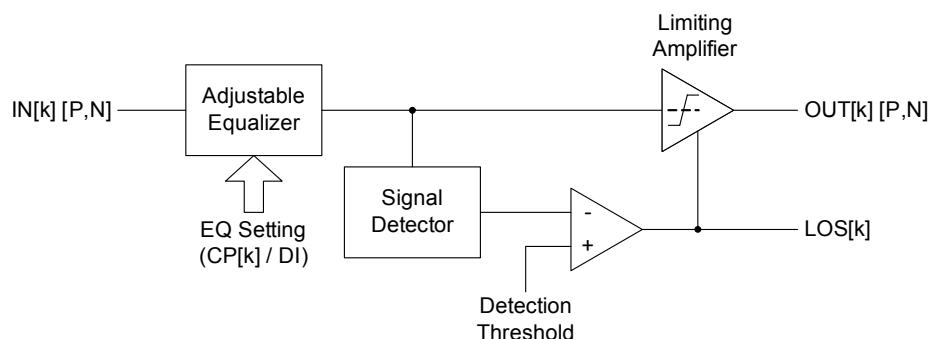

FIGURE 22. FUNCTIONAL DIAGRAM OF A SINGLE CHANNEL WITHIN THE QLx4600-S30
The QLx4600-S30 is an advanced quad lane-extender for high-speed interconnects. A functional diagram of one of the four channels in the QLx4600-S30 is shown in Figure 22. In addition to a robust equalization filter to compensate for channel loss and restore signal fidelity, the QLx4600-S30 contains unique integrated features to preserve special signaling protocols typically broken by other equalizers. The signal detect function is used to mute the channel output when the equalized signal falls below the level determined by the Detection Threshold (DT) pin voltage. This function is intended to preserve periods of line silence (“quiescent state” in InfiniBand contexts).
As illustrated in Figure 22, the core of each high-speed signal path in the QLx4600-S30 is a sophisticated equalizer followed by a limiting amplifier. The equalizer compensates for skin loss, dielectric loss, and impedance discontinuities in the transmission channel. Each equalizer is followed by a limiting amplification stage that provides a clean output signal with full amplitude swing and fast rise-fall times for reliable signal decoding in a subsequent receiver.